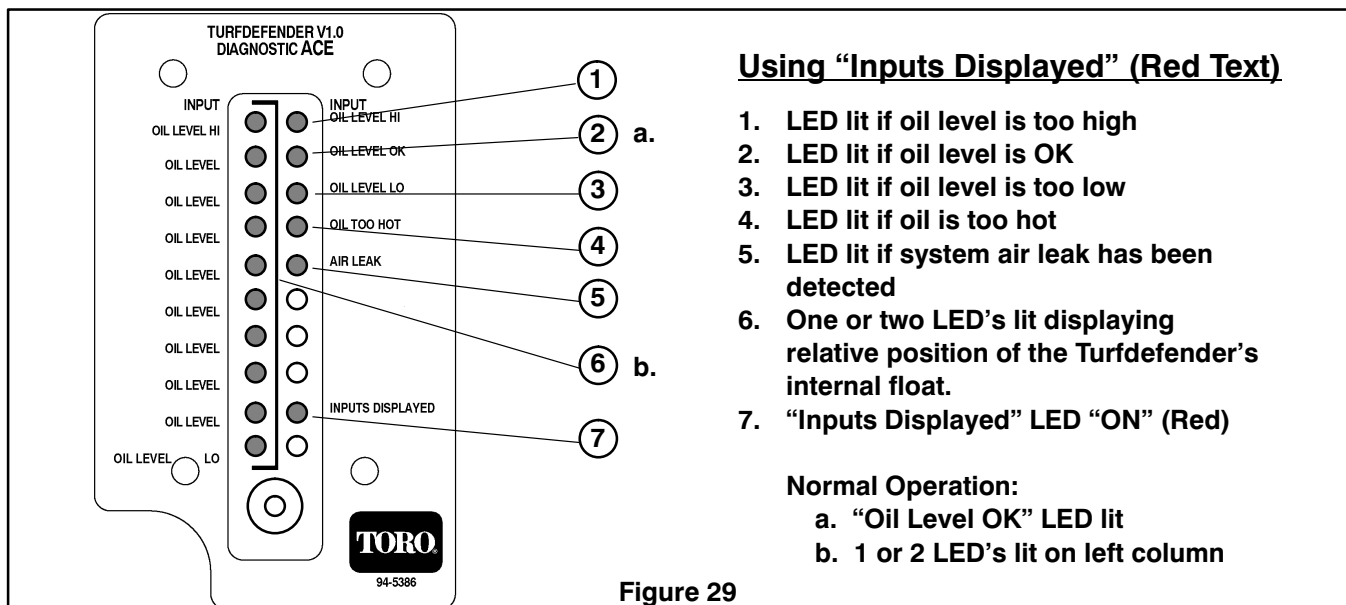

Figure 29
1. When the "Inputs displayed" LED is lit, the actual Float position (1 or 2 LED's on left row) and "Oil level OK" LED – should be displayed (Fig. 29).
1. When toggling "input", a LED should display (Fig. 29) any of the following problems diagnosed by the TurfDefender: